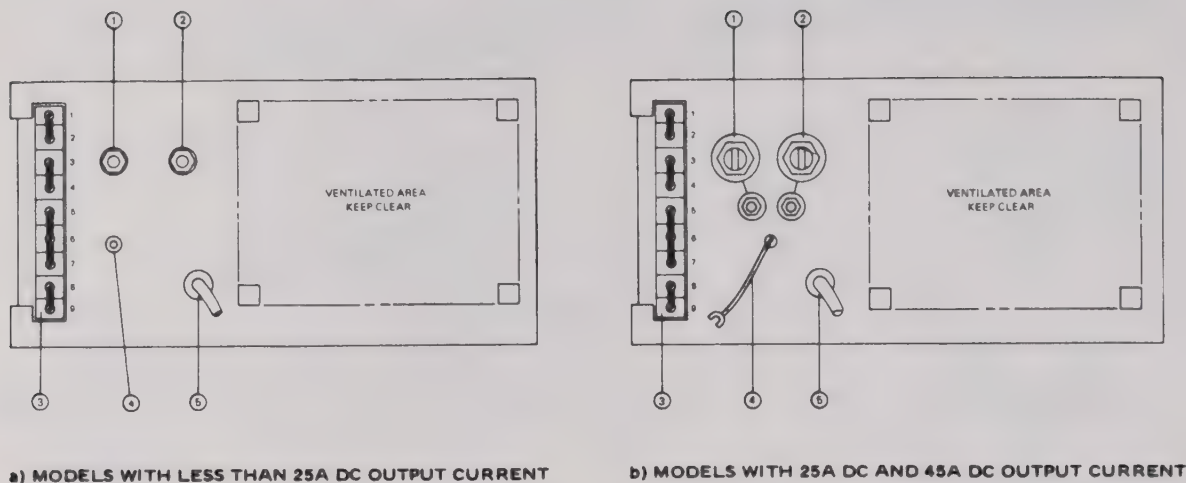

FIG. 2-4 REAR TERMINATIONS, HALF-RACK METERED MODELS
- b) REAR: Refer to FIG. 2-4 and TABLE 2-3.